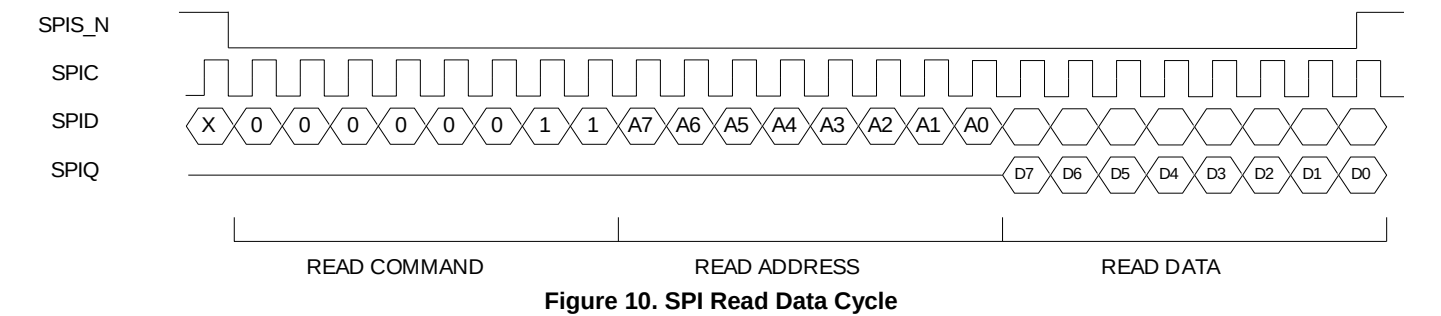
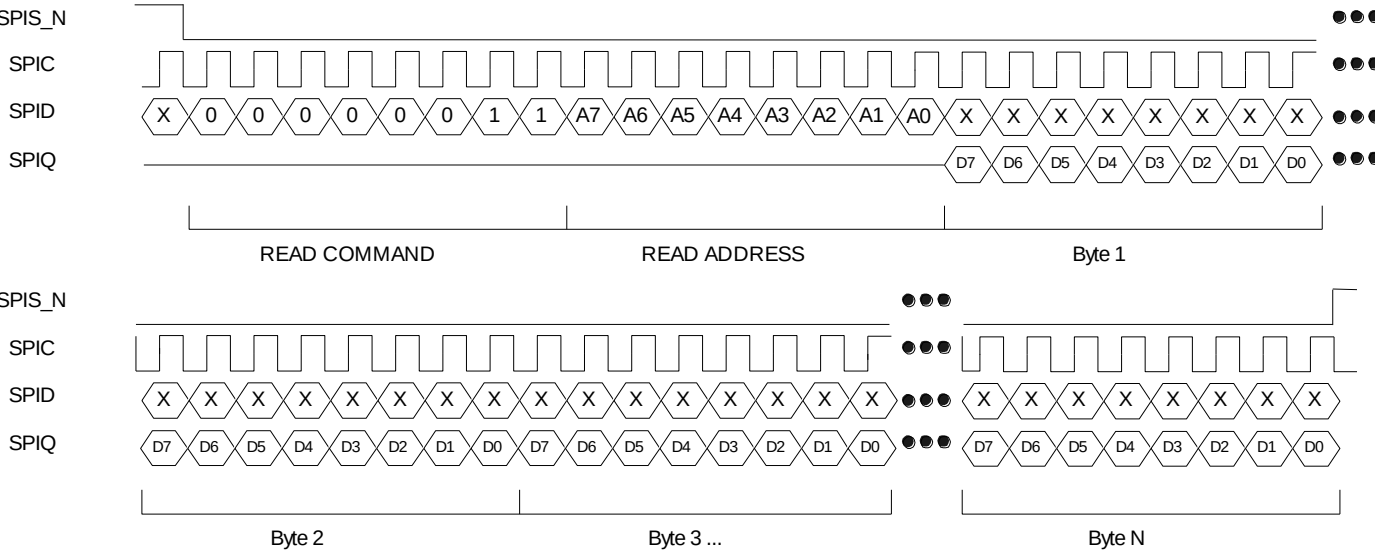

Figure 10. SPI Read Data Cycle
Figure 12. SPI Multiple Read
- Registers can be read and configuration can be verified with a typical SPI read data cycle as shown in Figure 10 or a multiple read as shown in Figure 12. Note that read data is registered out of SPIQ on the falling edge of SPIC.